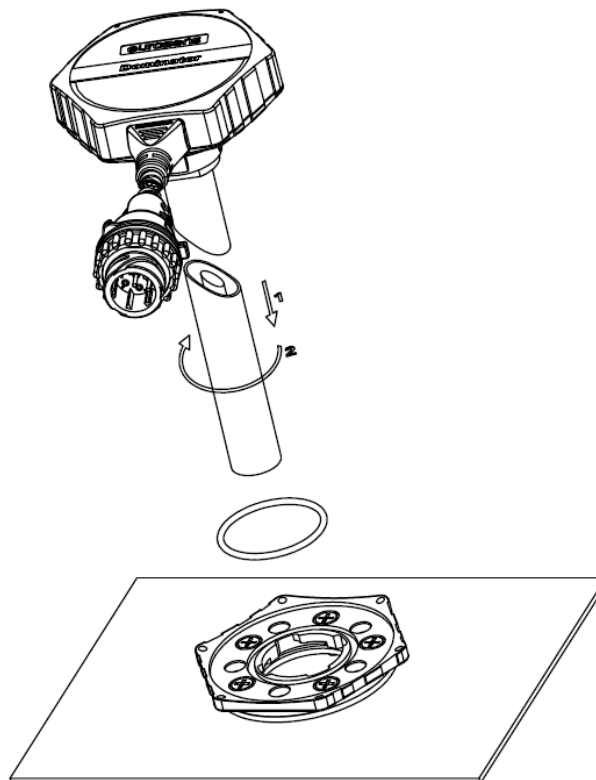

fig. 4.8. Installing sensor into bayonet
4. Insert the assembled sensor into the bayonet mount, press till it stops and turn the sensor clockwise until fixed (the edges of the housing should align with the edges of the bayonet plate) (fig. 4.8).